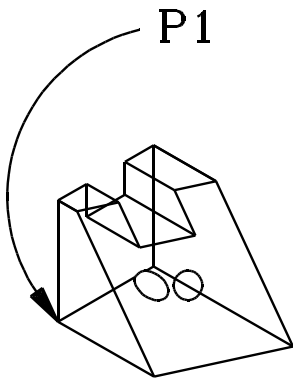

Figure 21
52. Click on LINE: POINT-TO-POINT, then click on point P1 in the isometric view. (See Figure 21.)